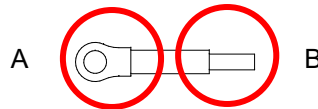

Fig 2-7
- You must ground the communication card when wiring CMM-EC02/ CMM-EC03. The ground terminal is included in the communication card package, as shown in Fig.2-7.